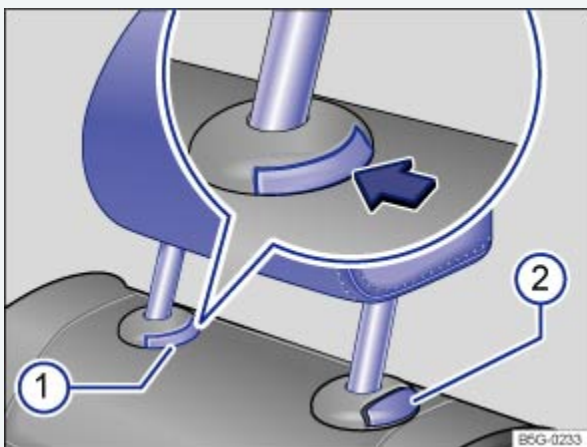
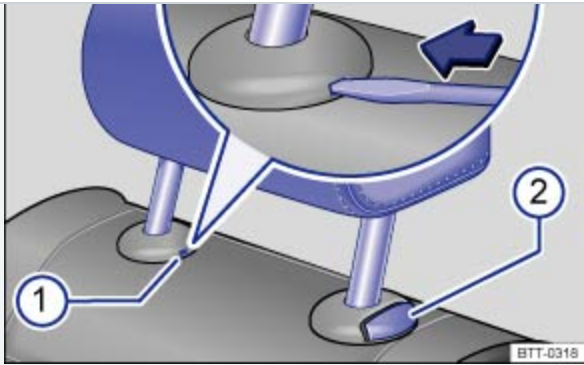

Fig. 47 Removing the rear head restraint (version A).
Fig. 48 Removing the rear head restraint (version B).
- Push button ⇒ Fig. 47 in the direction of the arrow and hold it in this position.
- At the same time press button ② while a second person pulls out the head restraint completely.
- If necessary, press the flat blade of the screwdriver from the vehicle tool kit into the slit of the trim cap ⇒ Fig. 48 in the direction of the arrow and hold it in this position.
- Push the head restraint down while pressing button ⇒ *Fig. 47* or ⇒ *Fig. 48*.